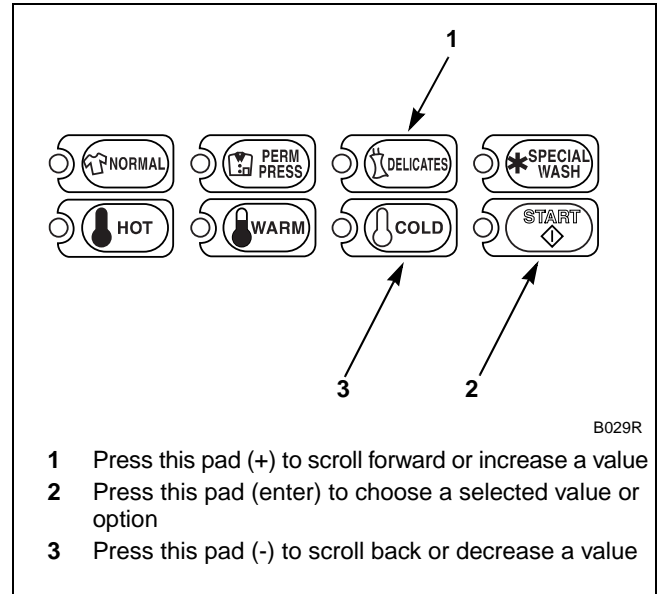

Figure 164
5. Press the DELICATES (+) or the COLD (-) keypad to increase or decrease the current number of minutes displayed in the VFD to the desired number of minutes. Refer to *Figure 164*.
**NOTE: The Delicates Rinse Final Fill/Tumble Time can be set from zero (0) to 15 minutes.**